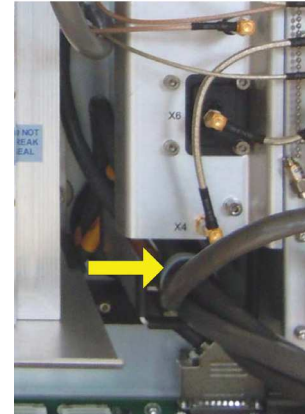

Fig. 7.33 Cable strap
- 9 In the cable tray at the bottom of the Waveguide Assy, cut the cable strap holding the cables to the assy. See Fig. 7.33 \(p. 138\).